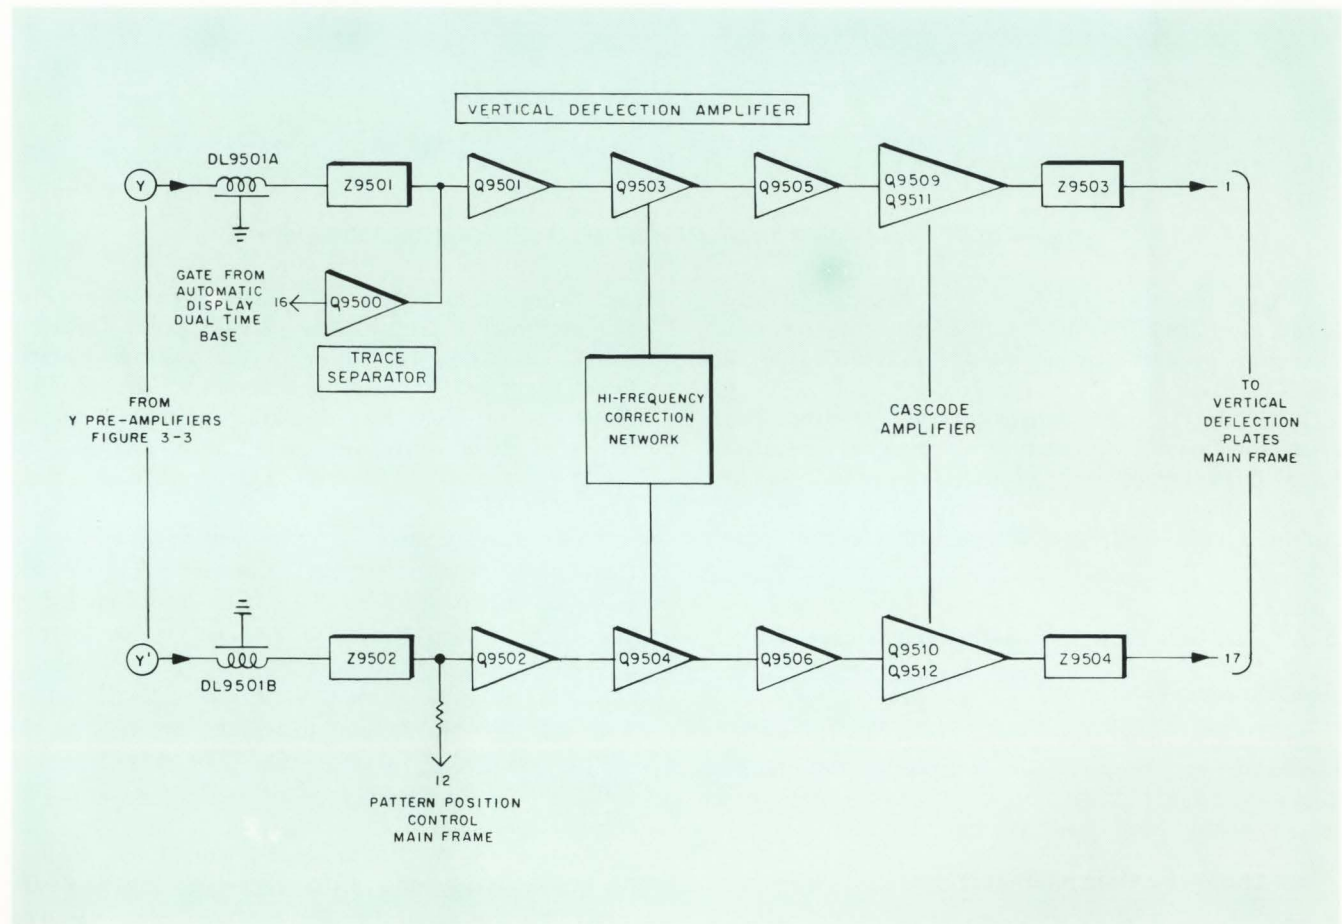

Figure 3-4. Type 76-08 Y Deflection Amplifier, Functional Block Diagram
- Figure 3-4. Type 76-08 Y Deflection Amplifier, Functional Block Diagram
3-4. COMMON DEFLECTION AMPLIFIER (Figure 3-4)
When the Automatic Display Dual Time Base Plug-in is used in the X cavity, a gate signal is coupled from it to Q9500 for automatic separation of the various displays. The signal progresses through the common deflection amplifier as indicated in Figure 3-4.